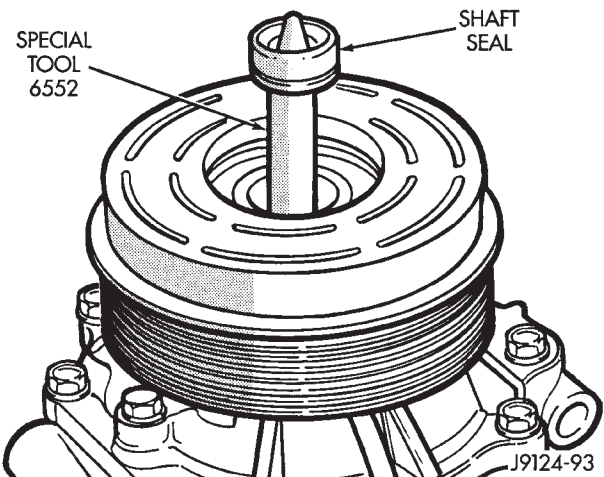

Fig. 10 Compressor Shaft Seal Sleeve Proctor
(1) Insert Seal Sleeve Protector Tool 6552 over compressor shaft (Fig. 10).